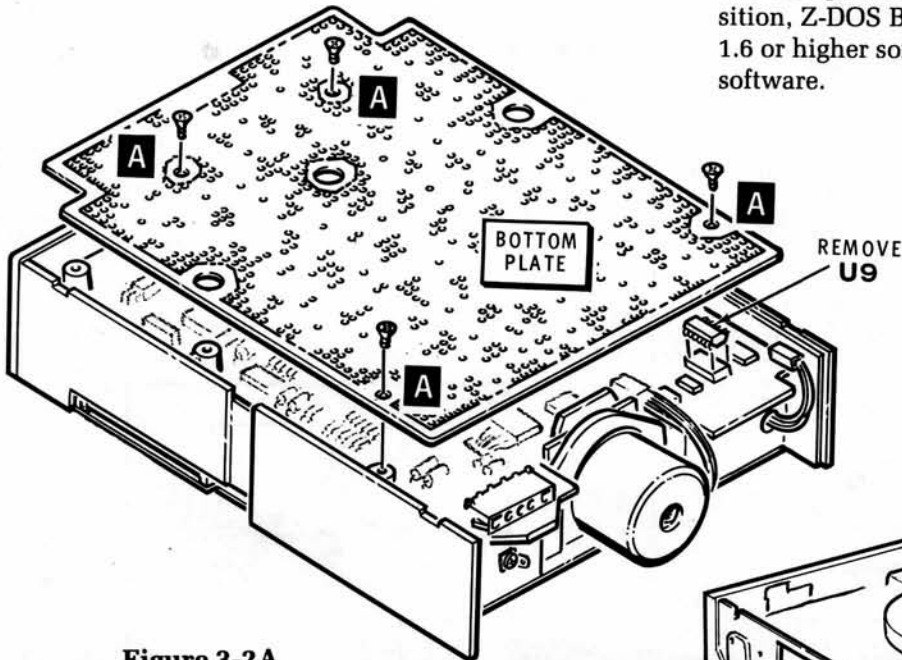
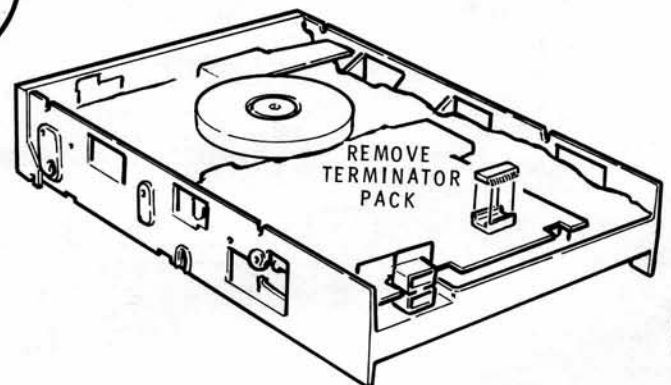

Figure 3-2A
Figure 3-2B
To remove the terminator pack, refer to Figure 3-2A and Figure 3-2B and proceed as follows:
- If you have a Mitsubishi drive, the terminator pack is at location E1. (The circuit board is numbered from 1 through 10 on each side and from A through F on the bottom. Refer to Figure 3-2B).